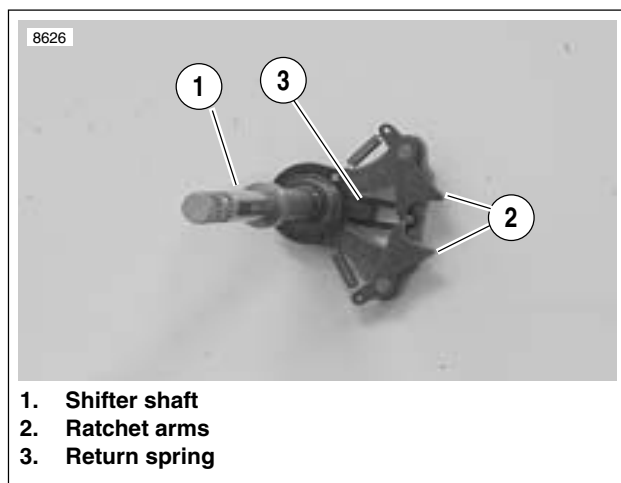

Figure 6-50. Shifter Shaft Assembly
11. See Figure 6-50. Depress ratchet arms in order to clear the shifter drum and remove shifter shaft assembly from left crankcase half.